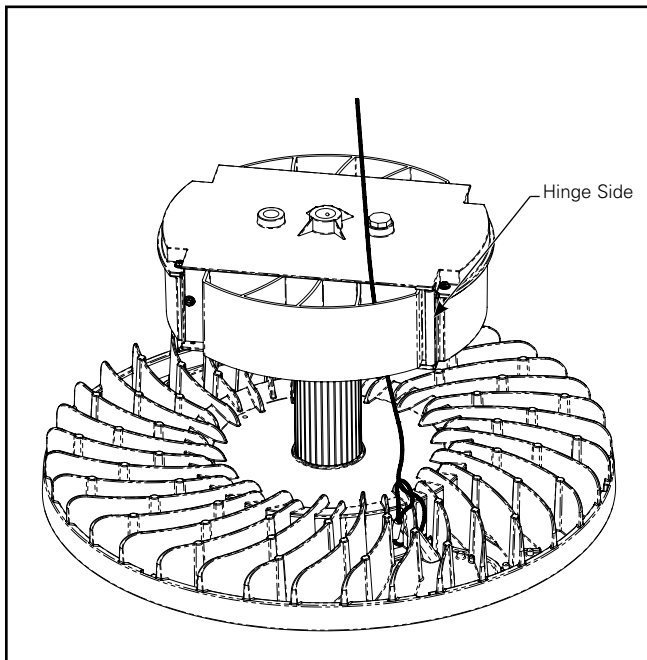

Figure 2.
2. Pull safety cable through fins on housing as shown in Figure 2.